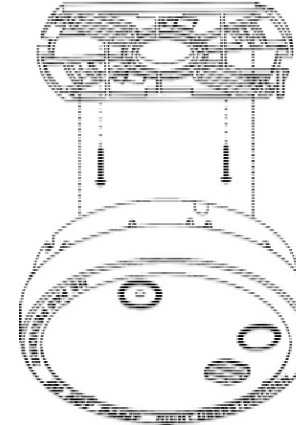

Fig. 6 – Fixing the smoke alarm base
- Attach the bracket to the ceiling with the screws supplied (see Fig. 6).